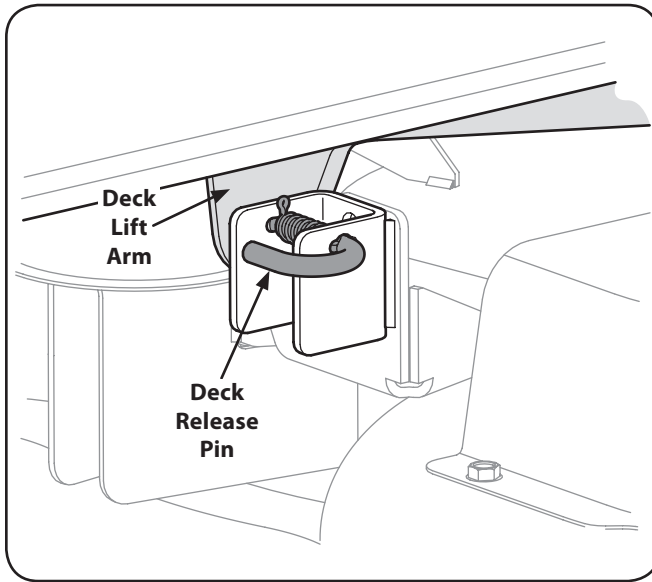

Figure 7-6
- Locate the LH and RH deck release pins on each side of the deck. Pull the release pins outward and release the deck from the LH and RH deck lift arms. See Figure 7-6.
- Pull the deck release pins outward and maneuver the deck as necessary to align the holes in the deck lift arms with the pins. Refer to Figure 7-6.